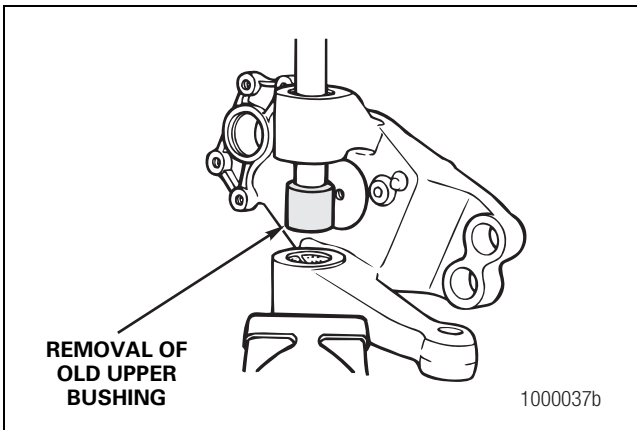

Figure 4.30
- C. Install the tool into the upper king pin bushing and press it from the knuckle bore. Figure 4.30.